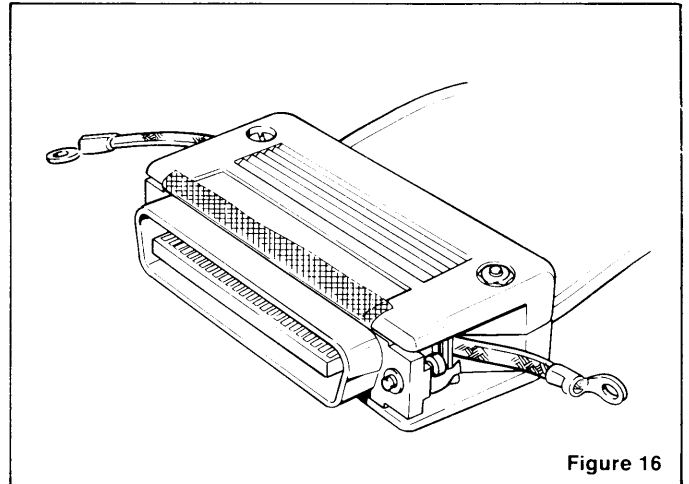

Figure 16
- Position the junction shell halves and push together, capturing the shield between the body keyway and junction shell key so that the ground strap extends from the side of the assembly. (Figure 16 and 17)